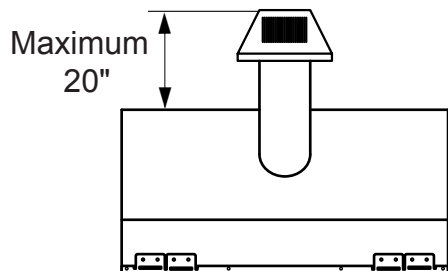
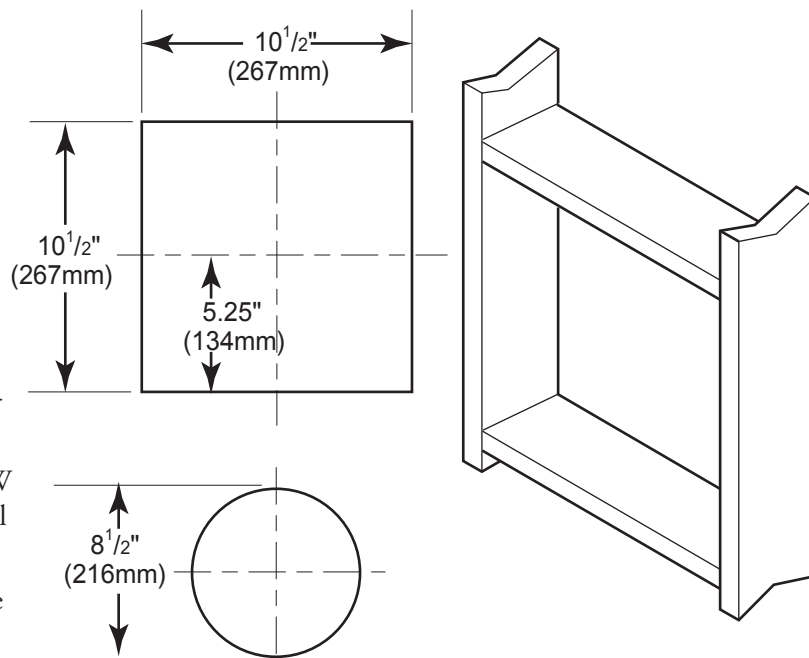

Figure 11 - Rear Vent Application, Maximum Horizontal Distance
Figure 12 - Vent Opening Requirements
The maximum horizontal distance between the rear of the appliance and the outside of termination is 20" (508 mm). See Figure 11.
1. Locate and cut the vent opening in the wall. For combustible walls first frame in opening. See Figure 11.
Combustible Walls: Cut a 10¹/₂"H x 10¹/₂" W (267mm x 267mm) hole through the exterior wall and frame as shown. See Figure 12.
3. Attach vent pipe assembly to the fireplace. Set fireplace in front of its permanent location to insure minimum clearances. Mark the wall for a 10¹/₂"H x 10¹/₂"W (241mm x 241mm) square hole (for noncombustible material such as masonry block or concrete, a 8¹/₂" [216mm] diameter hole is acceptable). See Figure 11. The center of the hole should line up with the center line of the horizontal rigid vent pipe end. Be sure to allow for minimum rise. Cut a 10-1/2"x10-1/2" (267mm X 267mm) square hole through combustible exterior wall (8¹/₂" [216mm] diameter hole if noncombustible). Frame as necessary. Allow ¹/₄" minimum rise per foot. See Figure 12.
1. Establish vent hole through the wall. *See Figure 12, page 17.*